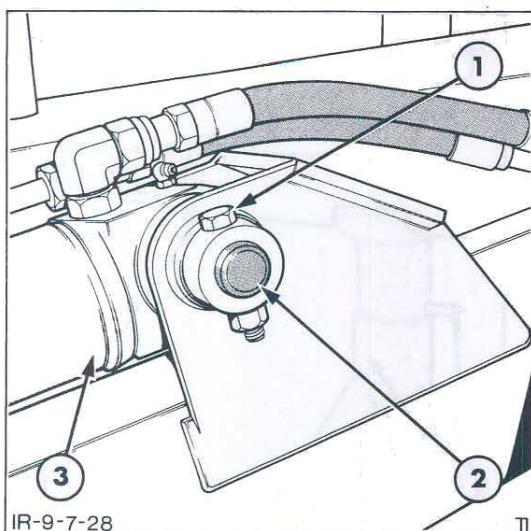

Figure 28
- (iii) Disconnect the cylinder barrel from the loader arm by removing the pin retaining bolt and driving the pin out, Figure 28.